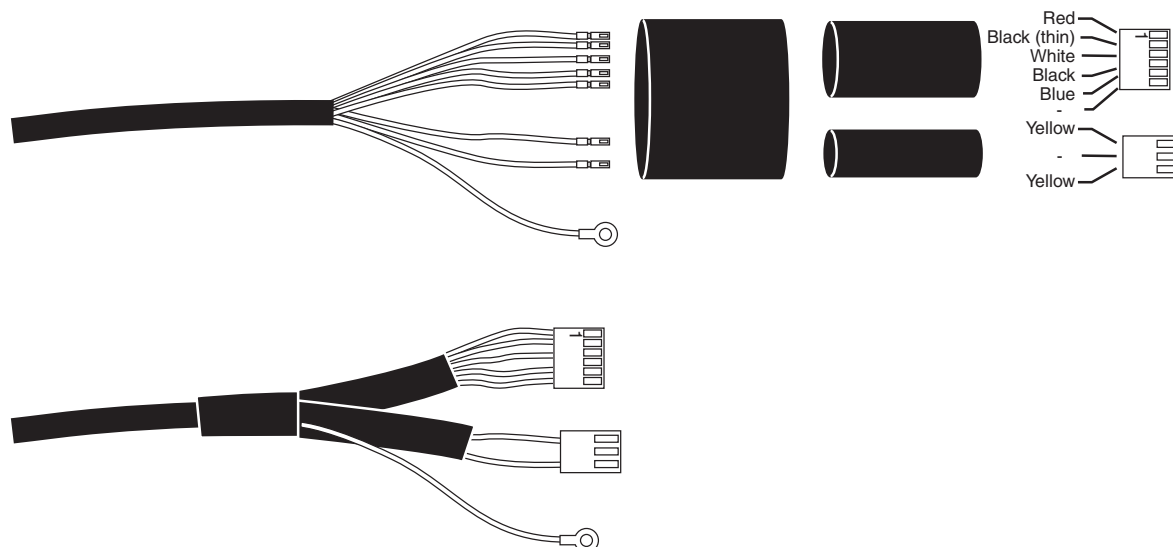

Figure 27
20. Connect the arm cable leads to the connectors as described in figure 27 below.